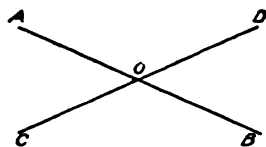

Fig. 12. Intersecting Lines.
When two lines intersect they form four angles, Fig. 12. The angles $A O C$ and $A O D$ are called *adjacent* angles because they have the same vertex O and the line $A O$ is common to both as it forms a side of each angle. It has been proved that $\angle A O C + \angle A O D =$ two
76. Measurement of Angles. It has been shown in Fig. 12 that the sum of the angles about the point of intersection of two lines is always four right angles. Evidently, other lines might be drawn through the same intersection, making the angles smaller and more in number, without changing the value of their sum. In measuring angles, therefore, it has been agreed to divide these four right angles about a point into 360 equal parts called *degrees*, indicated by the sign, $^{\circ}$. In this case each of the four right angles would contain
- In Fig. 12, the angle AOC is, say, 52° ; find the value of the three other angles about the point O .